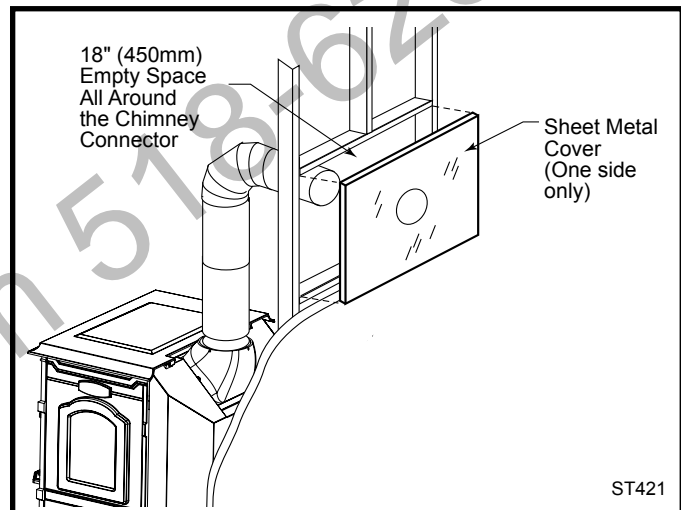

Fig. 11 Hollow wall pass-through.
**In Canada:** The Canadian Standards Association has established different guidelines. Figure 11 shows one method, in which all combustible material in the wall is cut away to provide the required 18" (450 mm) clearance for the connector. The resulting space must remain empty. A flush-mounted sheet metal cover may be used on one side only. If covers must be used on both sides, each cover must be mounted on non-combustible spacers at least 1" (25 mm) clear of the wall. Your Dutchwest dealer or your local building inspector can provide details of other approved methods of passing a chimney connector through a combustible wall. In Canada, this type of installation must conform to CAN/CSA-B365, Installation Code for Solid Fuel Burning Appliances and Equipment.